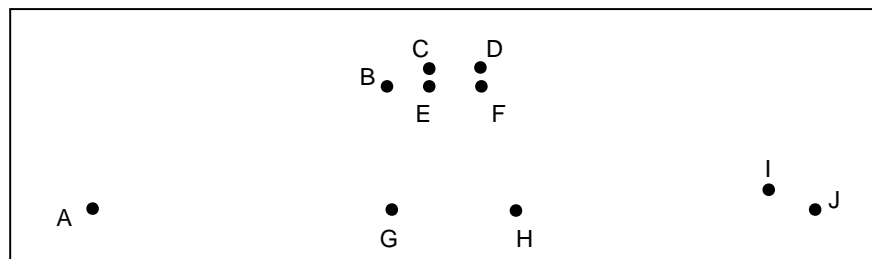

Figure 17.3 Points Created with the Create Point Tool
The nodes you have created should resemble the nodes shown in Figure 17.3 (without the labels).
3. Select the leftmost node in the mesh (point A in Figure 17.3).